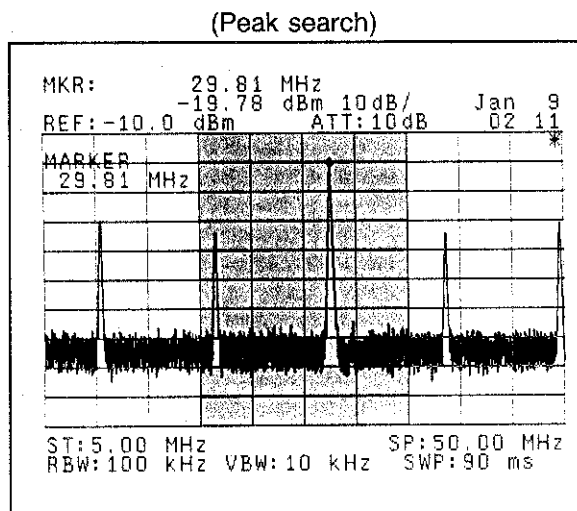

Figure 7-56 Continuous peak search inside the window
② Peak search inside the window
- Same as MIN search, continuous search (see Figure 7-56).
③ NEXT peak search inside the window
④ X dB down inside the window
⑤ 3rd order modulation distortion measurement